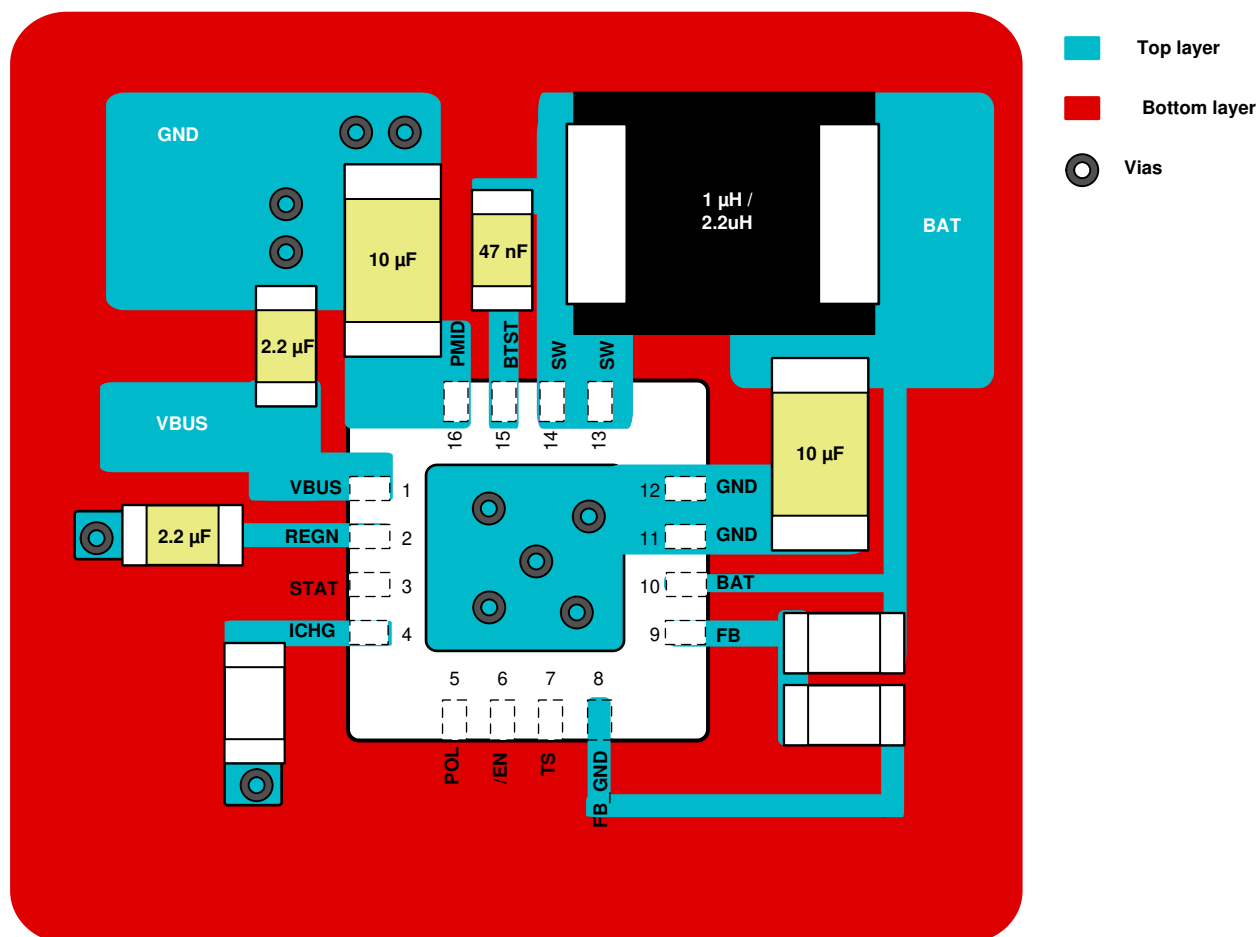

Figure 12-2. Layout Example
- See the 2 layer PCB design example in Figure 12-2 for the recommended component placement with trace, grounding and via locations.
The device pinout and component count are optimized for a 2 layer PCB design. The 2-layer PCB layout example is shown in Figure 12-2.